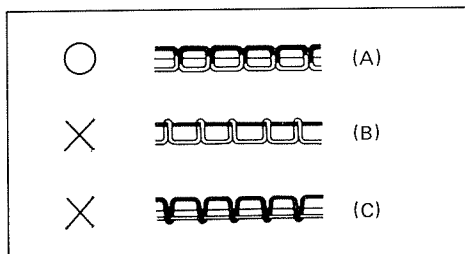

Fig. 11
Normal condition is such that the needle thread and the bobbin thread may interloop at the center of the material thickness as shown in Fig.11 (A).
If either one of the needle thread and the bobbin thread has the tension higher than that of the other, the result will be such as shown in Fig.11 (B) and (C).